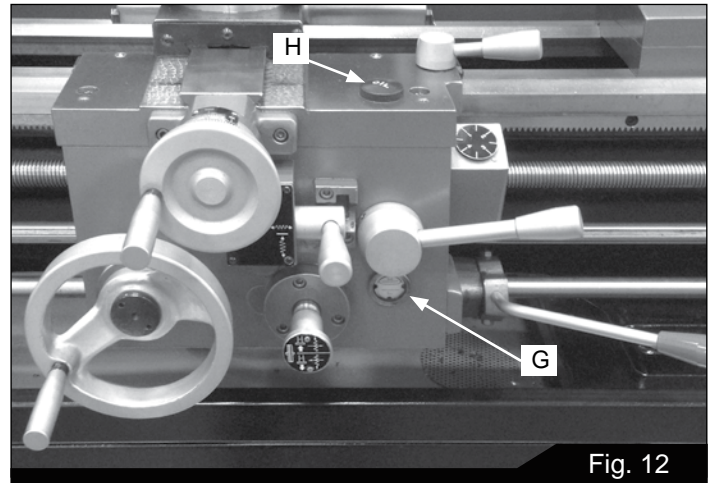

Fig. 12
4. Apron – Oil must be between indicator marks in the oil sight glass (G, Figure 12). Top off with SAE 20W oil. Unscrew oil plug (H, Figure 12) to fill. To drain, remove drain plug on the underside of apron. Drain oil completely and refill after the first three months of operation. Then, change oil in the apron annually.